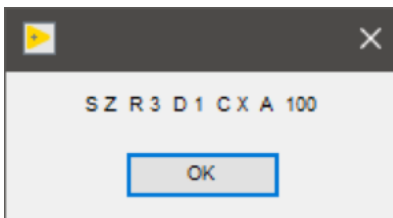

Figure 39- Degausser status window
- **Get Status:** Ask the degausser for its status and display the results. See the degausser manual for specifics on what each of these codes means (Figure 39).